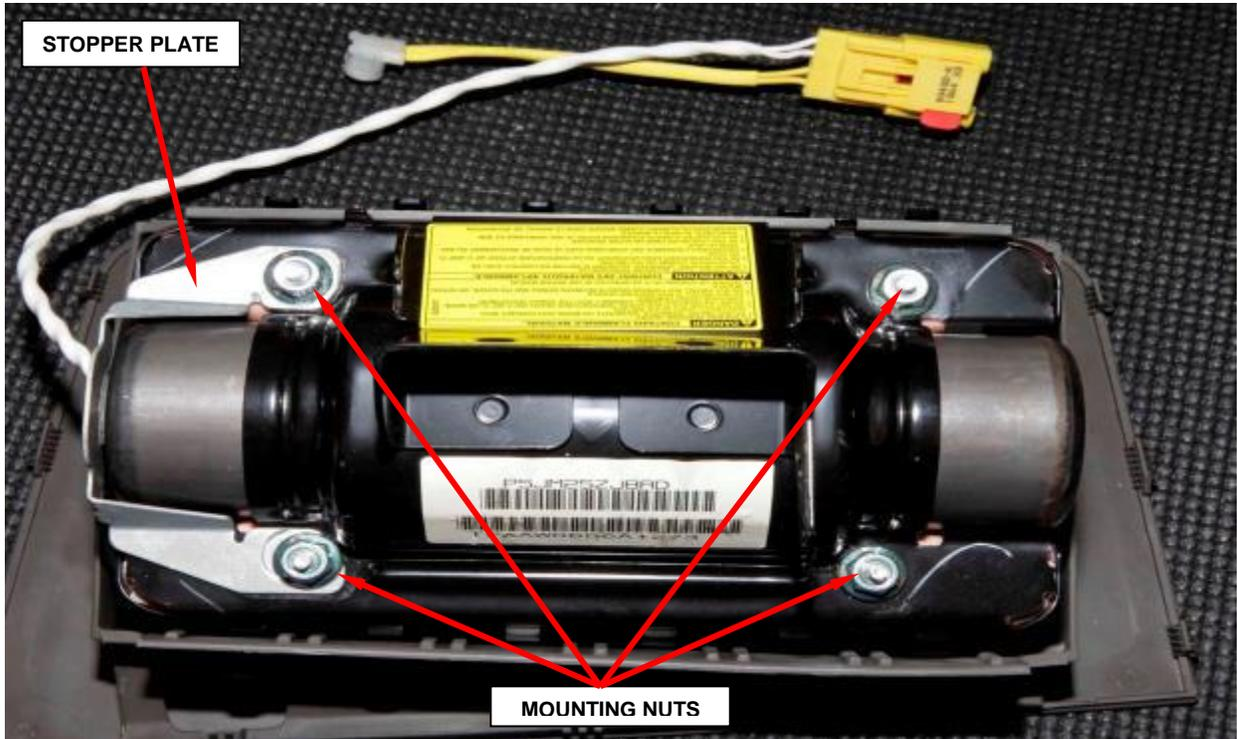

Figure 86 – Mounting Nuts and Stopper Plate
e. Remove and **discard** the four mounting nuts and stopper plate from the passenger airbag module (Figure 86).